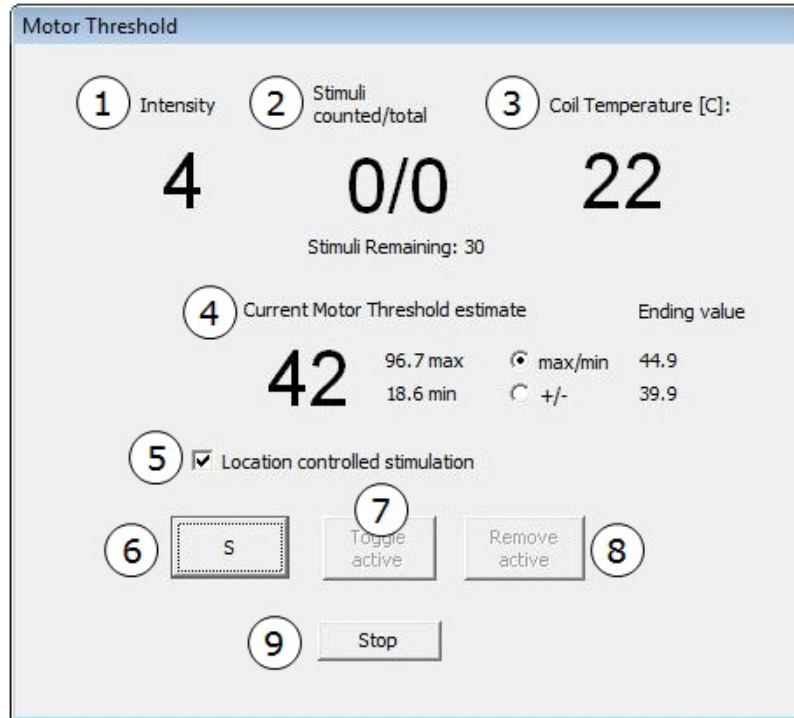

Fig. 98. Motor Threshold running -dialog
4. Click **Start** to open the **Motor Threshold** running -dialog (see Figure 98 and Table 29).